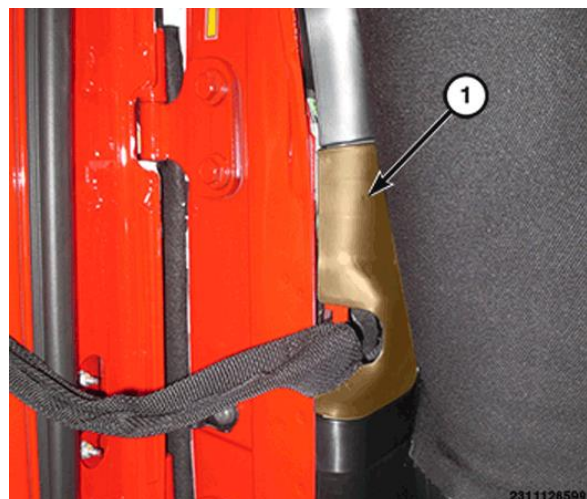

Figure 9 – B-pillar Trim Cover
30. Using a trim stick, release and remove the B-pillar trim cover (1) (Figure 9).